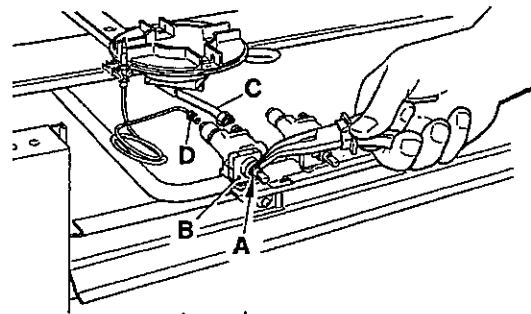

fig. 34
- Take the burners apart as shown in Fig. 34
- Remove the ignition switch "B" (Fig. 34) - if fitted - after removing clip "A"
- Unscrew the lock nuts "C" from the junction ramp between the burner (Fig. 34) and, for cookers fitted with a safety thermocouple, unscrew nuts "D" to remove the taps